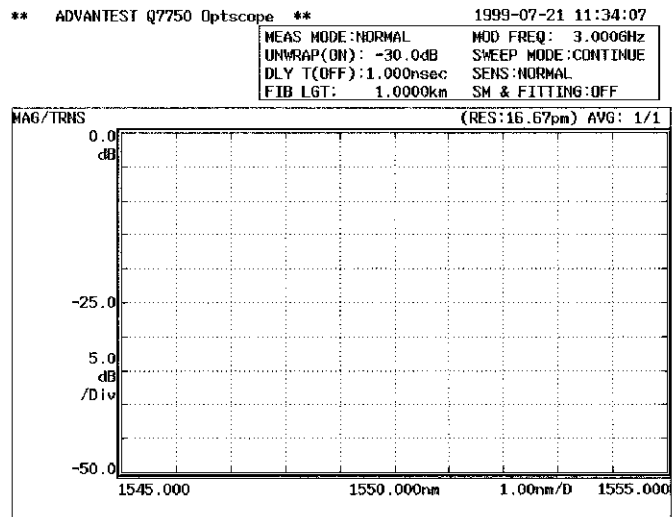

Figure 1-7 Startup Screen
6. On the Display unit (which is mounted on top of the Optical Network Analyzer unit), press the **POWER** switch to the ON position. The Optscope performs the Initial test for approximately one minute, then displays the startup screen as shown in Figure 1-7.
NOTE: *There is a possibility that the screen display is different from the one shown in Figure 1-7, depending on previously saved conditions.*